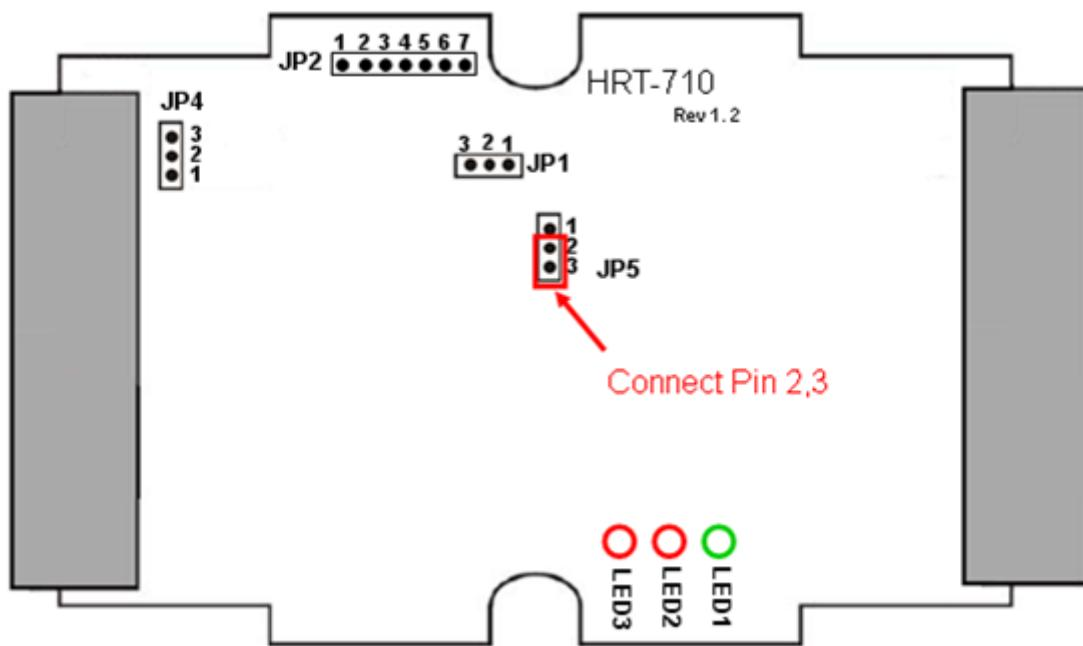

Figure 4-1 Connect pin 2 & 3 of JP5 together
- (2) Turn off the power and open the shell of HRT-710. Then connect the pin 2 & 3 of JP5 together like Figure 4-1.